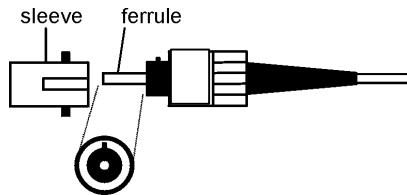

Figure 87: Connector Cleaning (Connector Type Can Vary)
2. Blow the sleeve with filtered compressed air (Figure 87)